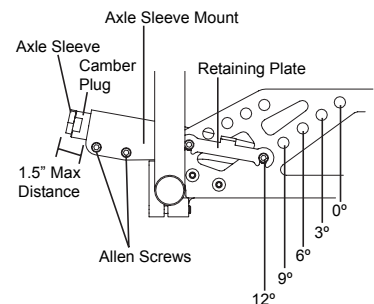

Figure 82
5. Using Figure 82, determine the placement of the retaining plate and skewers that will achieve your desired camber.
6. Reposition the axle sleeve mounts to the desired camber position, making sure to align the holes in the axle sleeve mount with the holes on the front and rear adjustable camber mounting plates. See Figure 82.
2. Loosen, but do not remove, the two Allen Screws located on the axle sleeve mount on each side of your chair. Only loosen the screws enough to permit the camber plug to slide in and out of the axle sleeve mount. See Figure 82.
11. Loosen the two Allen Screws in each axle sleeve mount that secure the camber plug in place. See Figure 82.
17. Securely tighten the Allen Screws in the axle sleeve mounts. See Figure 82.